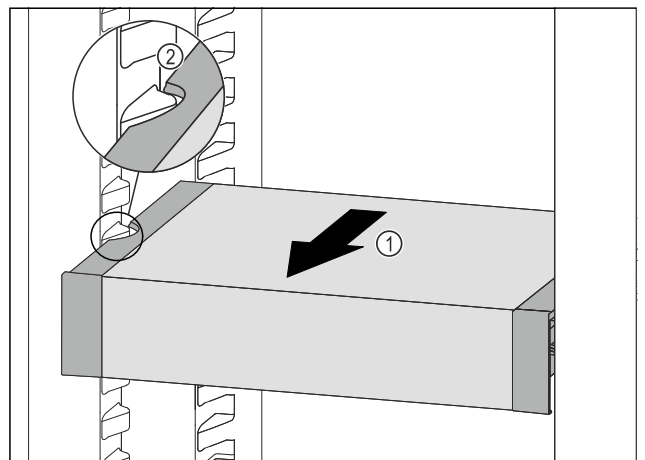

Fig. 92
- Pull VarioSafe forwards Fig. 92 (1) until the recesses in the side of the VarioSafe are at the level of the support rib in the fridge section. Fig. 92 (2)